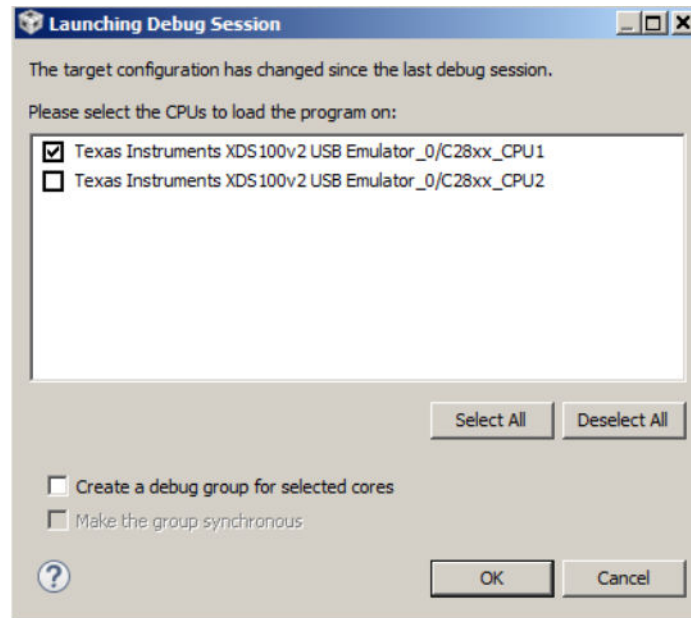

Figure 3-11. Selecting the CPU(s) to Connect
4. The following window may pop up, requesting that users select which of the two CPUs (in F28379x) to connect to (see Figure 3-11), if it is the first time that the project is used. Select CPU1 by clicking the box next to it.